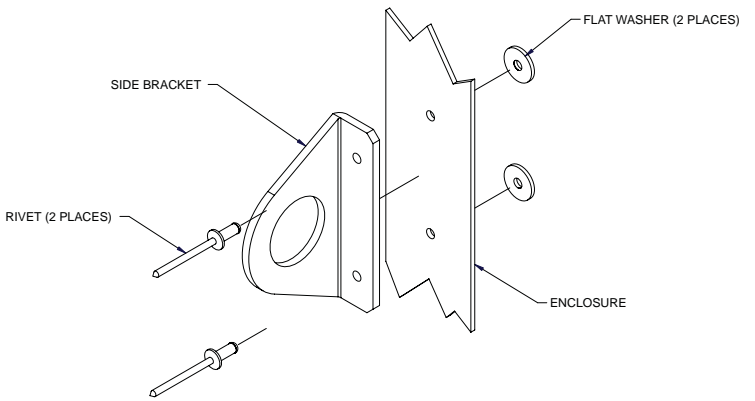

Fig. 4, Side Bracket Assembly
The installation outlined below applies to each of the supported enclosures. On all enclosures you must install side brackets and lock brackets. The side brackets hold the security bar, and the lock brackets hold the security lock. See Figs. 4 and 5.
13. Rivet the side brackets and lock brackets to the enclosure and to the door. See Figs. 4 and 5.